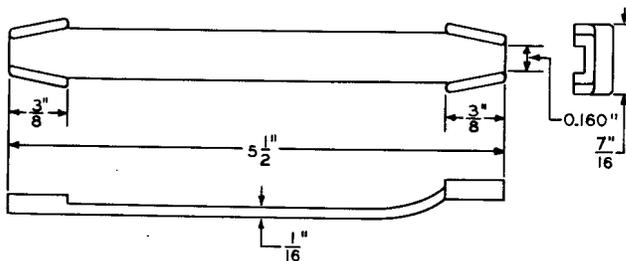

Fig. 9—662A Adjuster Tool
2.10 **662A:** The 662A tool (Fig. 9) is an adjuster used for adjusting lugs of wire spring multicontact relays.